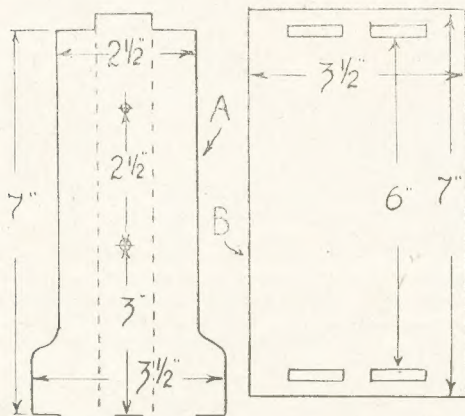

Fig. 1—Sides and floor pieces of model
Make the stand first. This consists of two sides, a base, and a top. Patterns for the two former parts are given in Fig. 1. (A) is the sides. Cut two of these to shape and dimensions, making the tenons 1in. long, and  $\frac{1}{2}$ in. apart for the bottom pair.